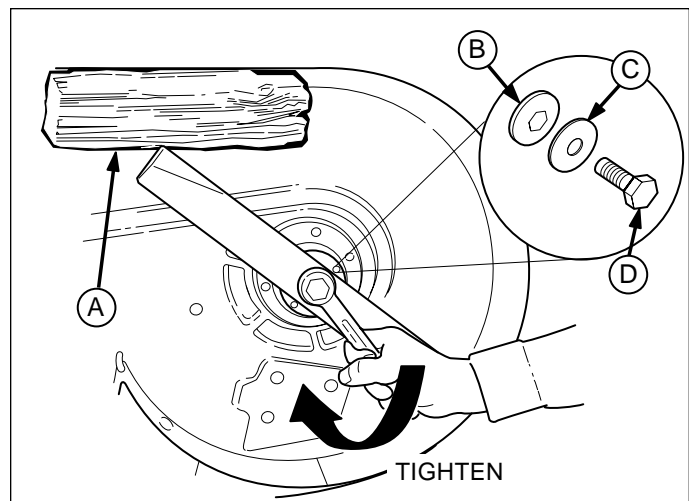

Figure 25. Installing The Blade
6. Reinstall each blade with the tabs pointing up toward deck as shown in Figure 25. Secure with a capscrew, spring washer and hex washer (be certain the hex washer is aligned with the hex shaft). Use a wooden block to prevent blade rotation and torque capscrews to 45-55 ft.lbs. (61-75 N.m.).